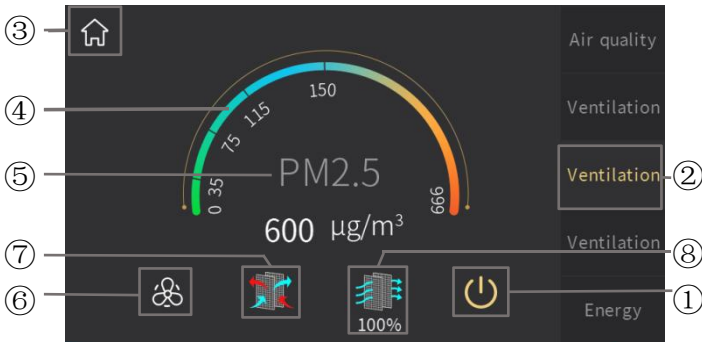
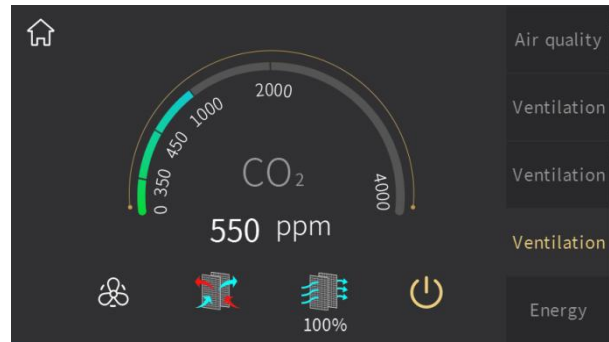

Fig.2.6.1
Fig.2.6.2
Only when auto fan speed control of ventilation system is enable would this interface display, as shown in Fig.2.6.1 and Fig.2.6.2.
PM2.5 concentration as shown in Fig.2.6.1, according to the value received from the bus, range 0~999ug/m³; if the data exceed 999ug/m³,then the interface will display 999ug/m³.
CO₂ concentration as shown in Fig.2.6.2, according to the value received from the bus, range 0~4000ppm; if the data exceed 4000ppm, then the interface will display 4000ppm.
⑦ This is the heat recovery icon, used to turn on or off heat recovery function;
Whether heat recovery function of ventilation system is enable or not is configured through parameter configuration. When disable, there will be no display of heat recovery function on the interface as shown in Fig. 2.6.1; when enable, heat recovery function is turned on by default when ventilation system is ON, and the heat recovery function can be turned on or off by touching icon⑦. The icon on indicates that the heat recovery is on; the icon off indicates that the heat recovery is off. In addition, heat recovery function can be turned on or off through the bus. After disable heat recovery, any touching of icon⑦ will respond.
⑧ This icon is the filter timer icon;
shown in Fig.2.6.1; when enable, icon③ will be colorful after ventilation system ON, the remaining evaluation value will be displayed next to it. The value will be updated according to the use time, which will be updated through the bus.